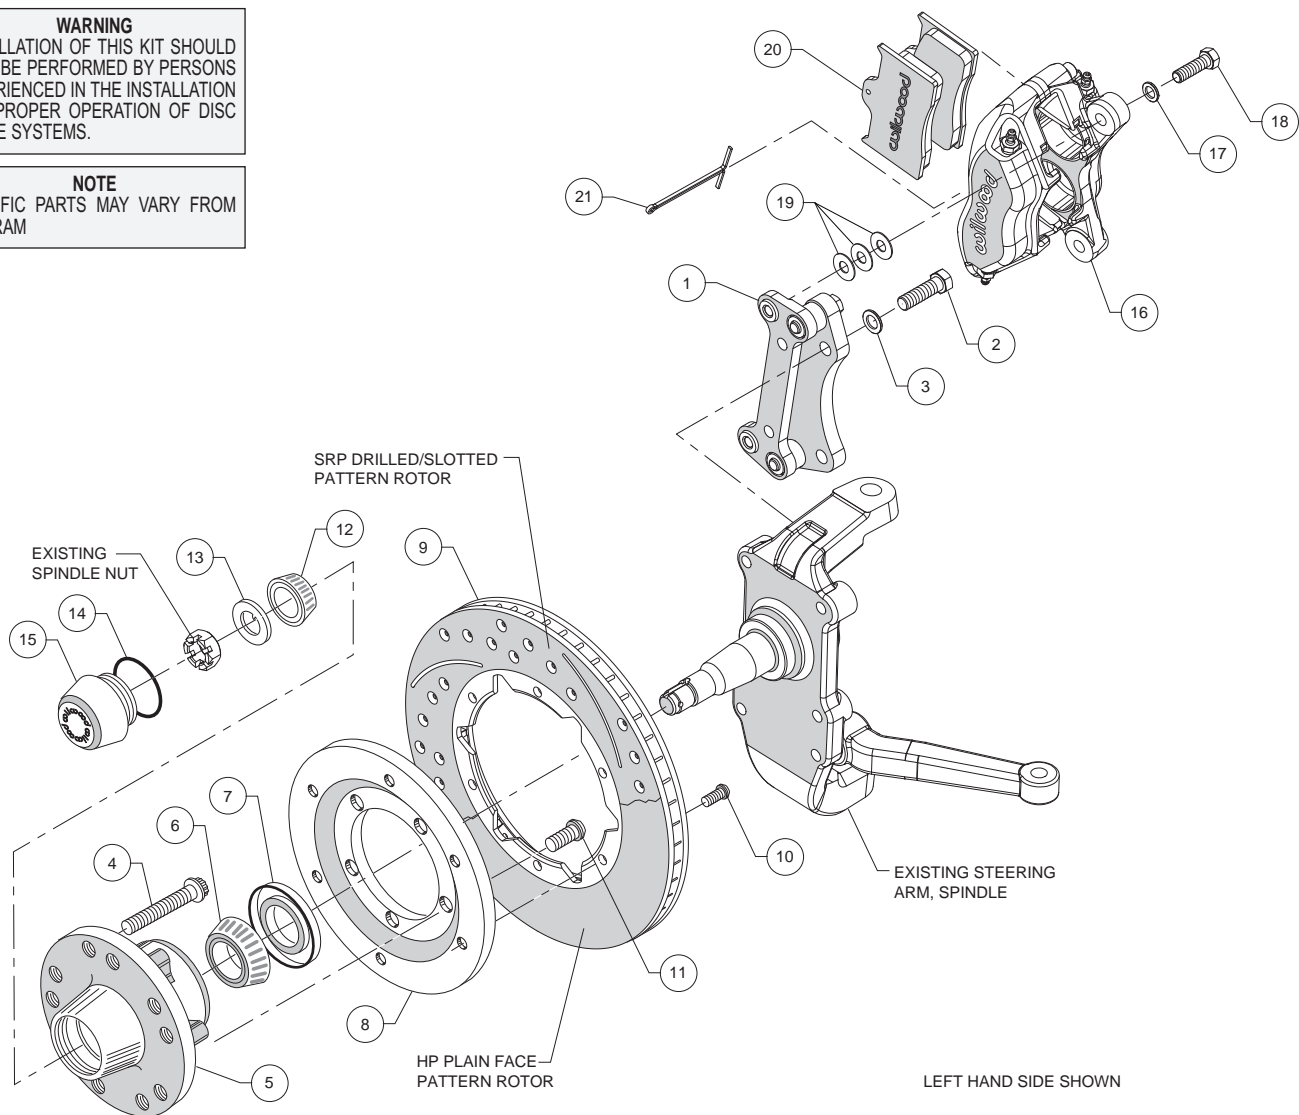
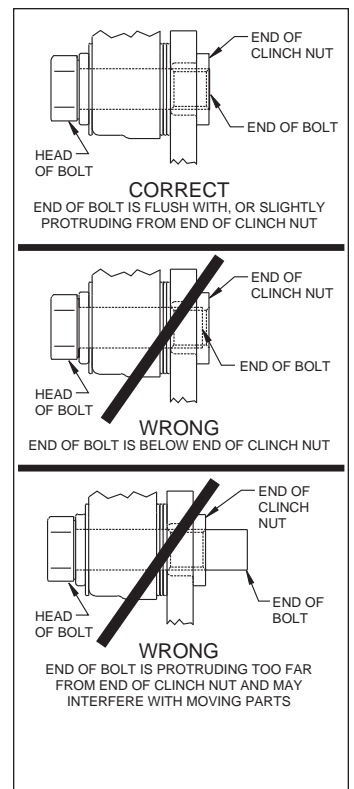

Figure 1. Typical Installation Configuration
Figure 3. Clinch Nut Engagement Diagram
Assembly Instructions (numbers in parenthesis refer to the parts list on the preceding page, and Figure 1): **CAUTION:** All mounting bolts must fully engage insert nuts. Be sure to check that all bolts are either flush or protruding through flanged side of clinch nut after shimming, Figure 3.
- Align caliper mounting bracket (1) with the corresponding holes, on the backside of the spindle and attach using bolts (2) and washers (3), as shown in Figure 1 and Photo 1. Temporarily tighten the mounting bolts. Ensure that the flanged heads of the clinch nuts in the bracket are facing outboard, Photo 1. **NOTE:** The bracket must fit squarely against the mounting points on the spindle. Inspect for interference from casting irregularities, machining ridges, burrs, etc. Remove bolts one at a time, apply red *Loctite*® 271 to threads, and torque to 55 ft-lb.
- Orient the rotor (9) and the rotor adapter (8) as shown in Figure 1 and Photo 4. Attach the rotor to the adapter using bolts (10). Using an alternating sequence, apply red *Loctite*® 271 to the threads, and torque to 25 ft-lb.
- Mount the adapter/rotor assembly (8/9) to the hub (5) using bolts (11), as shown in Figure 1 and Photo 5. Using an alternating sequence, apply red *Loctite*® 271 to the threads, and torque to 45 ft-lb.
- Pack the small outer bearing cone (12) with high temperature disc brake bearing grease and install into hub (5). Slide the hub/rotor assembly onto the spindle. Secure using spindle washer (13) and OEM spindle nut, Photo 6. Adjust bearings per OEM specifications. Install saved OEM nut lock (if any) and a new cotter pin (not included).
- Screw dust cap (15) into hub (5), Photo 7. Friction created by the o-ring (14) on the dust cap keeps it from unscrewing. **NOTE:** The O.D. of the existing OEM spindle washer may be larger than the I.D. of the dust cap not allowing it to seat against the hub face. Therefore, use the spindle washer (13) supplied with the kit instead of the OEM washer.
- NOTE:** Please reference the caution statement at the beginning of the assembly instructions. Mount the caliper (16) onto the caliper mounting bracket (1) using bolts (18) and washers (17), as shown in Figure 1. Initially place three .035" thick shims (19) on each bolt between the caliper and the bracket, Photo 8. Temporarily tighten the mounting bolts and view the rotor (9) through the top opening of the caliper. The rotor should be centered in the caliper, Photo 9. If not, adjust by adding or subtracting shims between the bracket and the caliper. Always use the same amount of shims on each of the two mounting bolts. **NOTE:** The end of each bolt must be flush with or slightly protruding from the head of the clinch nut, as shown in Figure 3. If necessary place spare shims between washer (17) and caliper mounting ear to achieve the proper clinch nut engagement. Once the caliper alignment and clinch nut engagement are correct, remove the bolts one at a time, apply red *Loctite*® 271 to bolt threads, and torque to 40 ft-lb.